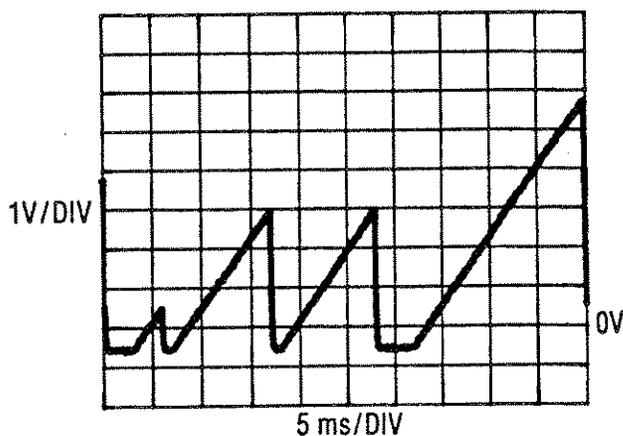

Figure 8-41. Analog to Digital Converter Ramp Waveform
1. Compare the waveform at A5TP1 with Figure 8-41. If it is incorrect, perform the Reference, Ramp Start Gate and Ramp Generator Tests. If the waveform is normal, continue with step 2.